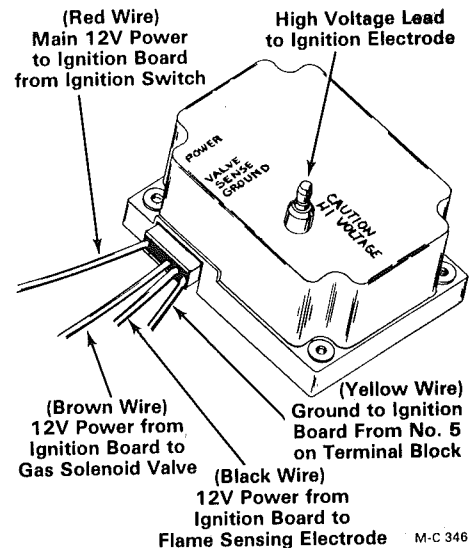

Figure 57
- A. Flip the ignition switch OFF. Disconnect the electrode high voltage lead on top of the ignition board, see Figure 57.